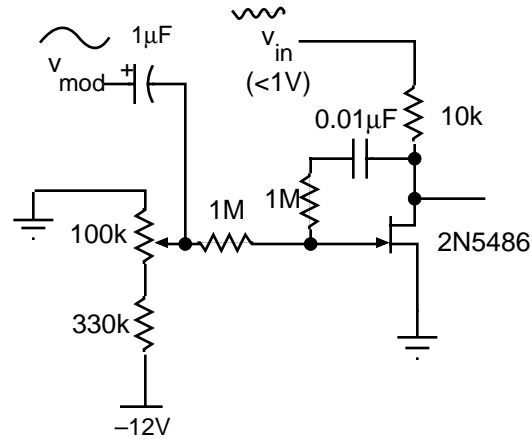

Fig. 7.5
c) **The World's Simplest AM Radio Transmitter:** Amplitude modulation can be produced with a slight modification shown in Fig 7.5. Use two function generators. One supplies the *carrier* frequency of around 1 MHz. The other can be set to sweep through an audible frequency range, e.g., 400-2000 Hz. This provides the variable *modulation* voltage. Attach a long wire antenna (a meter or two) to the output and you're on the air. Try to pick up the signal on a radio some distance away. For fun you might connect the earphone output from a tape player or a microphone to  $v_{mod}$  instead of the second signal generator.